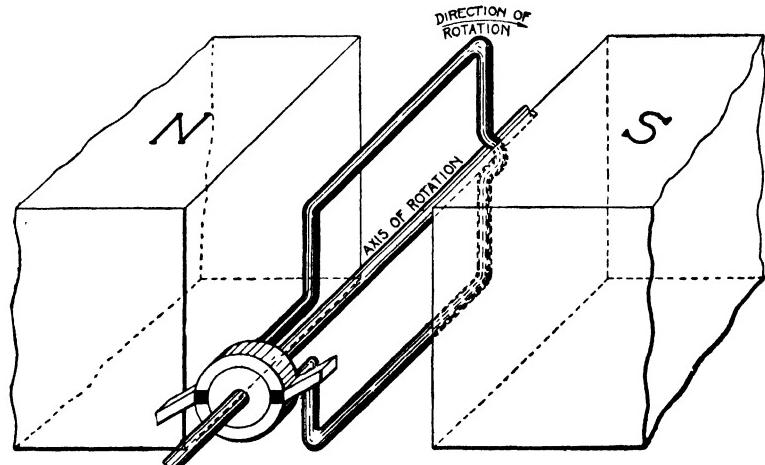
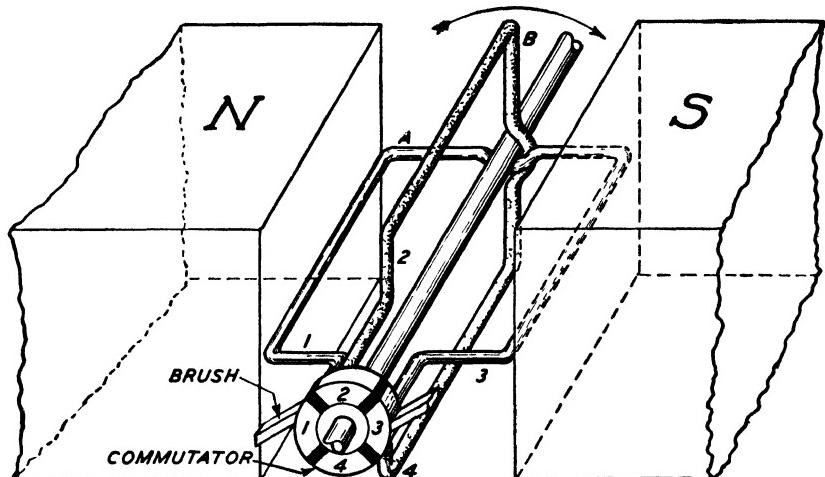

Fig. 12. Simple Direct-Current Generator
Fig. 14. Direct-Current Generator Composed of Two Loops of Wire and a Commutator of Four Segments
The simplest form of commutator consists of a metal ring divided into two equal parts and mounted on a tube of insulating material, the two halves of the ring being insulated from each other. Each half of the ring should be connected to one of the ends of wire formed by opening up the loop, Fig. 12. The metal parts composing the commutator are called segments. The two segments in the commutator are shown in Fig. 12. The electrical connection to the external circuit is made by means of suitable brushes which make electrical contact with the segments of the
commutator. Two brushes are required with a two-part commutator and single loop, as shown in Fig. 12, and these brushes should be equally spaced on opposite sides of the commutator, and in such a position that the insulation between the segments of the two-part commutator is exactly in the middle of the brushes when the plane of the loop is perpendicular to the direction of the magnetic field, or the induced e.m.f. in the loop is zero. A two-part commutator of this kind will reverse the connections of the loop of wire with respect to the external electrical circuit when the e.m.f. in the loop is zero and the e.m.f. acting on the external circuit always will be in the same direction and may be represented graphically by a curve
**LOOPS OF WIRE.** The fluctuation in the value of the e.m.f. between the brushes with the arrangements shown in Fig. 12, can be reduced by using two more commutator segments and a second loop. In this case the metal ring is cut in four parts instead of two, thus forming a commutator composed of four segments instead of two. The two loops are placed at right angles to each other and the terminals of each loop are connected to commutator segments that are opposite to each other instead of adjacent to each other. The connections of the loops and segments are shown in Fig. 14. Two brushes are required, and they should be placed exactly opposite each other and in such a position around the commutator that they pass from one segment to the next when the planes of the two loops are making angles of 45 degrees with a plane perpendicular to the direction of the magnetic field. The proper position of the brushes is shown in Fig. 14. Let us now consider the operation of this machine. Starting with loop A parallel to the magnetic field, loop B, which is at right angles to loop A, will be perpendicular to the direction of the magnetic field. When the loops are in this position the brushes should be in the center of the segments connected to loop A. Now as the combination of loops and commutator (called the armature) rotates, the e.m.f. induced in loop A decreases in value and the e.m.f. induced in loop B increases in value (it is to be remembered at the start the e.m.f. in A is at its maximum value and the e.m.f. in B is zero). When the armature has turned through an angle of 45 degrees, the commutator segments connected to loop A move from under the brushes and the commutator segments connected to loop B move under the brushes. This results in loop B now being connected in series with the external circuit instead of loop A. Loop B will remain in electrical connection with the external circuit for the next 90 degrees' rotation of the armature, or one quarter turn, when the segments connected to
*B* move from under the brushes and those connected to *A* move under the brushes. From the above statements and a careful inspection of Fig. 14 it is apparent that the loops *A* and *B* are alternately connected to the external circuit, and each time either of them is connected it is for one quarter of a revolution of the armature. The e.m.f. between the brushes varies in value, but it will never drop to zero value as with the single loop. The connections of the loops are changed when they are making an angle of 45 degrees with a plane perpendicular to the direction of the magnetic field and the e.m.f.'s induced in the loops at this instant are equal in value and equal to 0.707 of the maximum e.m.f. in-
In an open-circuit winding the different loops do not as a whole form a closed circuit, but each loop is in circuit only when the commutator segments to which it is connected are in electrical contact with the brushes. The windings shown in Figs. 14 and 16 are of the open-circuit type.